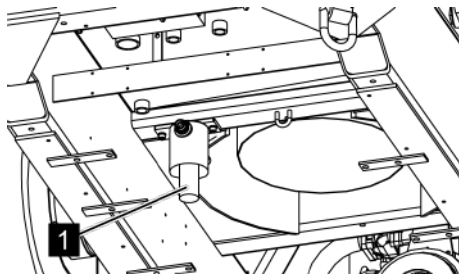

Fig. 168: Filter insert
7. ➔ Remove the filter insert (Fig. 168/1) and insert a new filter insert.